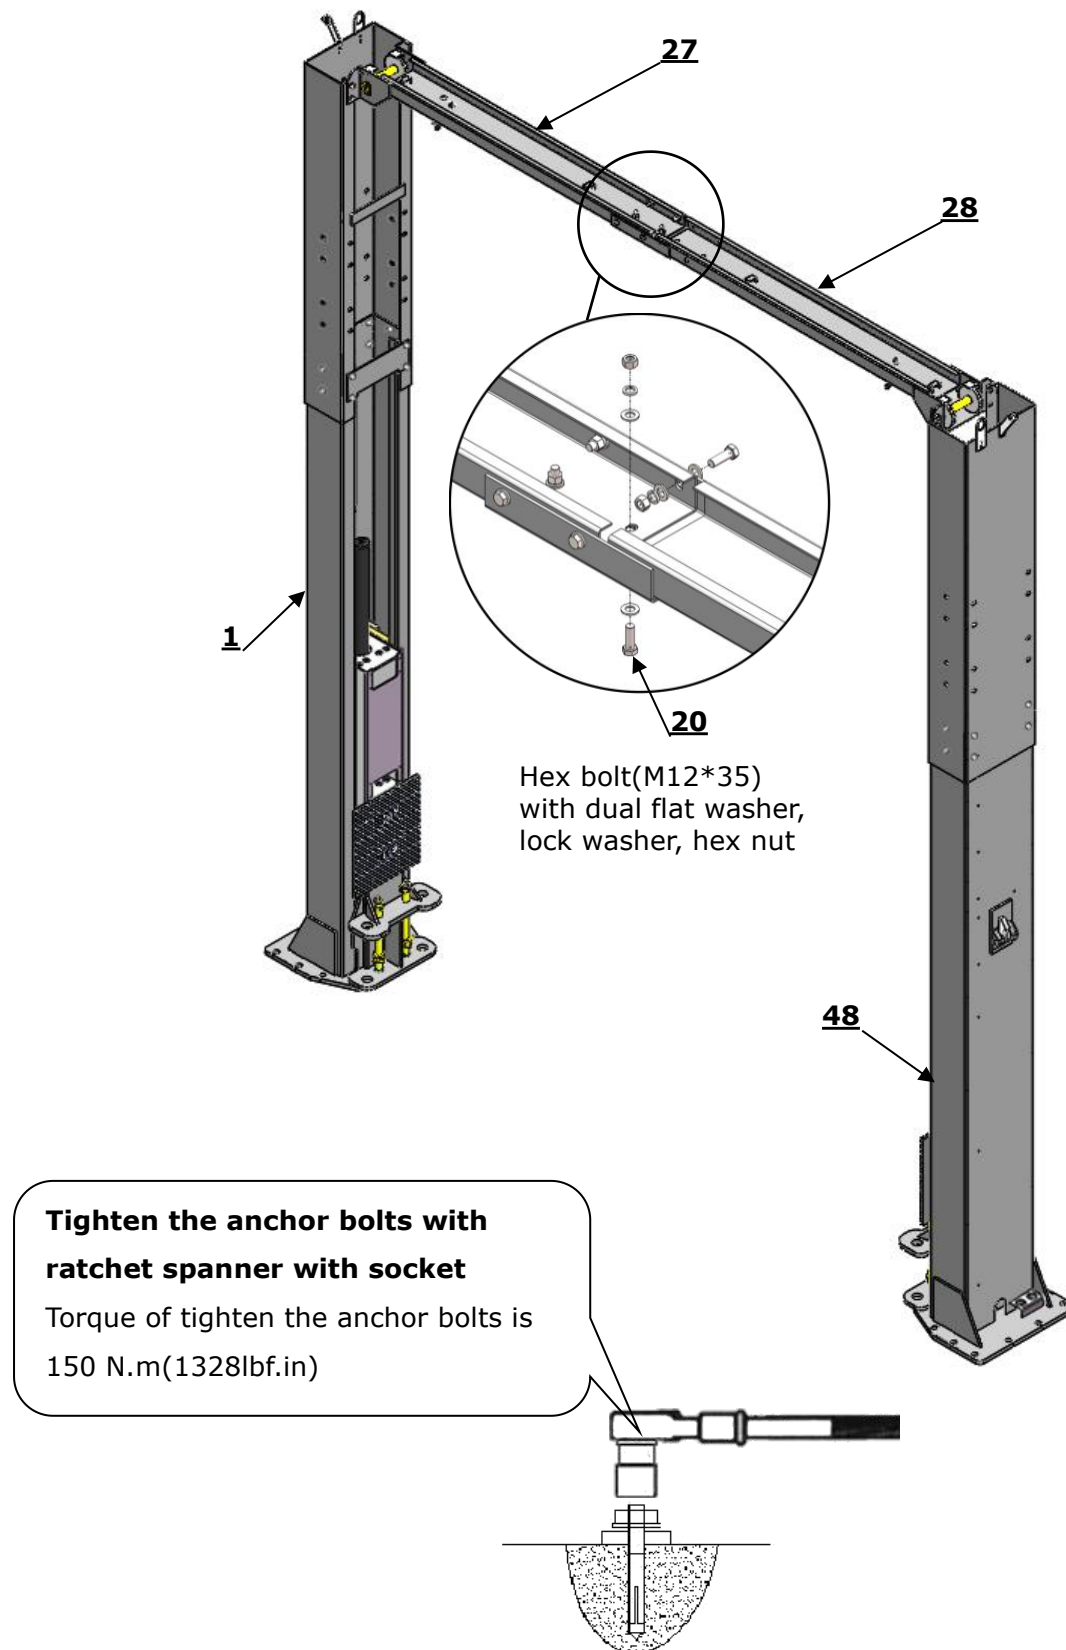

Fig.25
2. Hang the hook of top beam (without limit switch) on the other outer column, and then bolted to top beam . (See Fig. 25)